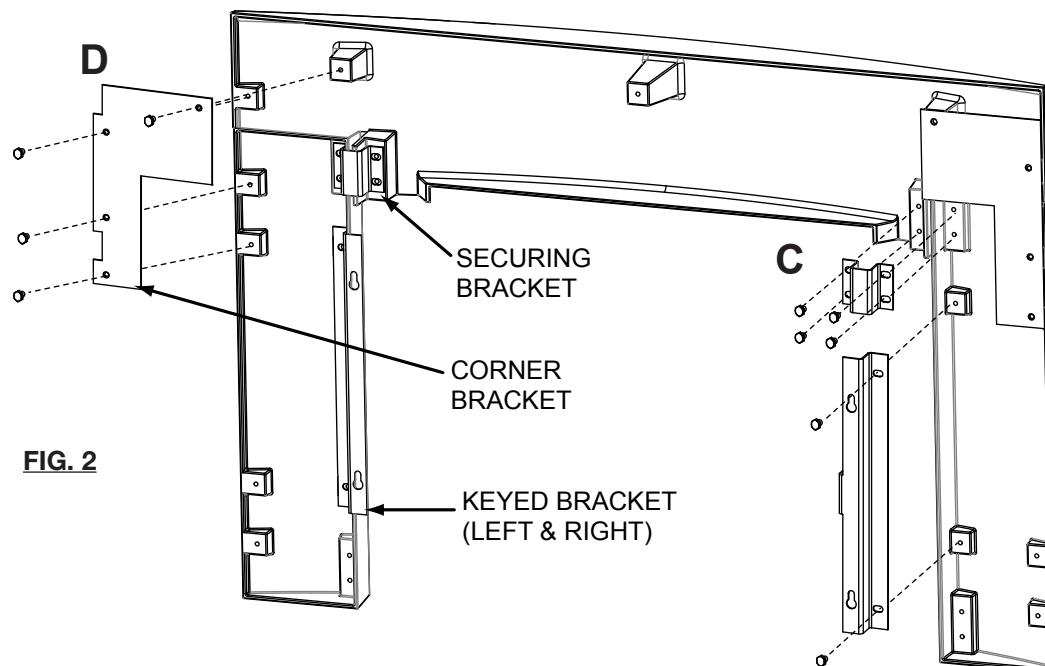

FIG. 2
- C. Place the casting pieces face down on a protected surface and assemble as shown (FIG 2).
- D. Fasten the securing brackets using the screws (FIG 2, C).
- E. Secure the corner brackets into place on both sides of the casting using the screws (FIG 2, D).
- F. Lift the casting, place the keyed holes onto the 1/4-20 round head screws, and rest the casting into place (FIG 2). Adjust screws as necessary to stabilize.